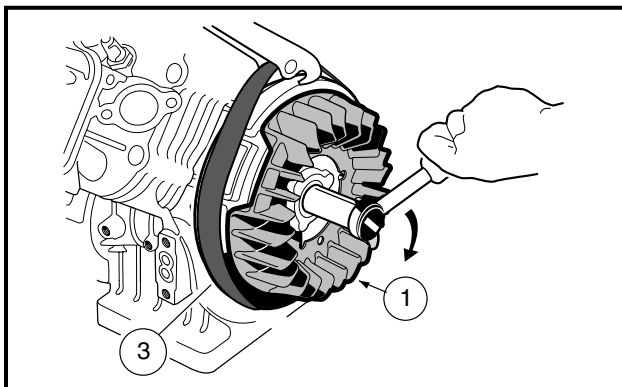

Figure 3-100 Fan and Flywheel Assembly
3. Use a strap wrench (3) to keep the flywheel and fan assembly (1) from turning and tighten the flywheel nut to 63 ft-lb (85.4 N·m) (**Figure 3-100, Page 3-45**). See following **CAUTION**.